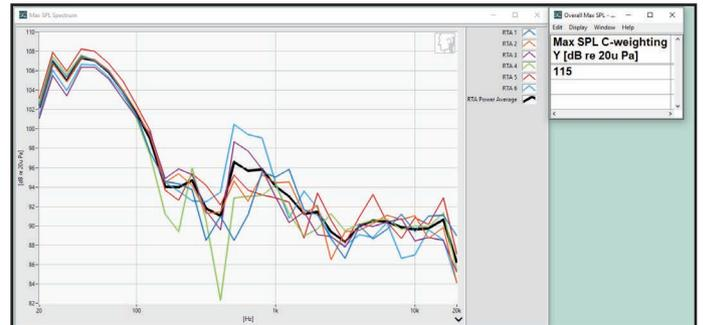

Figure 2: Max SPL Spectrum and Max SPL results
maximum volume to ensure the system is tested at the loudest signal the car will play. The sound source may come from any source—a memory stick, a CD, or Bluetooth from a smartphone or auxiliary line in. The average SPL in dB(C) is measured for 30 seconds. This is called a Leq measurement, and it takes the spatial average of the six-microphone array, power averaged, to get the overall Max SPL level (**Figure 2**).
The Max SPL Spectrum is measured using a real-time analyzer set to 1/12 octave resolution, 30 second linear averaging time and no waiting. This enables us to measure the level versus frequency irrespective of the human ear's perception. The Max SPL is recorded at each microphone simultaneously from 20Hz to 20kHz and the power average calculated (Figure 2).